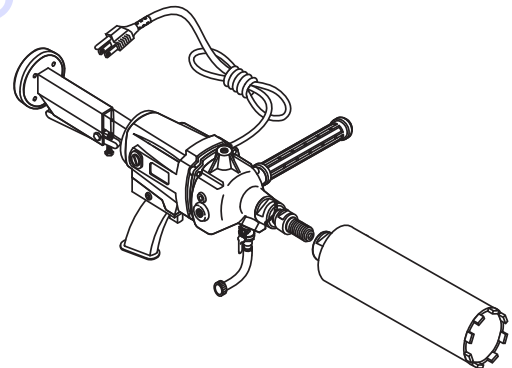

Figure 5. Drilling with a Standard DRY/WET Core Bit
With the proper adapter, 1" to 3" diameter dry/wet core bits can be used with the CDM1H when drilling vertical and horizontal holes. All hand-held core drills require practice and operator technique to ensure consistent clean drilled holes. When using **wet** core bits, water **MUST** be used to ensure proper cooling. "Bit chatter" around the hole can be eliminated by various techniques such as angle-entry procedures and fabricated guides. Angle-entry is one safe and simple way to start the bit onto the surface. Angle the bit (1) at 10°-15° above the surface and slowly introduce the bit until it is flush with the surface (2). See Figure 5.
1. Attach the supplied water hose and garden hose fitting to the core drill as shown in Figure 5. Be sure to place worm-clamps on each end of the hose to prevent leaking.